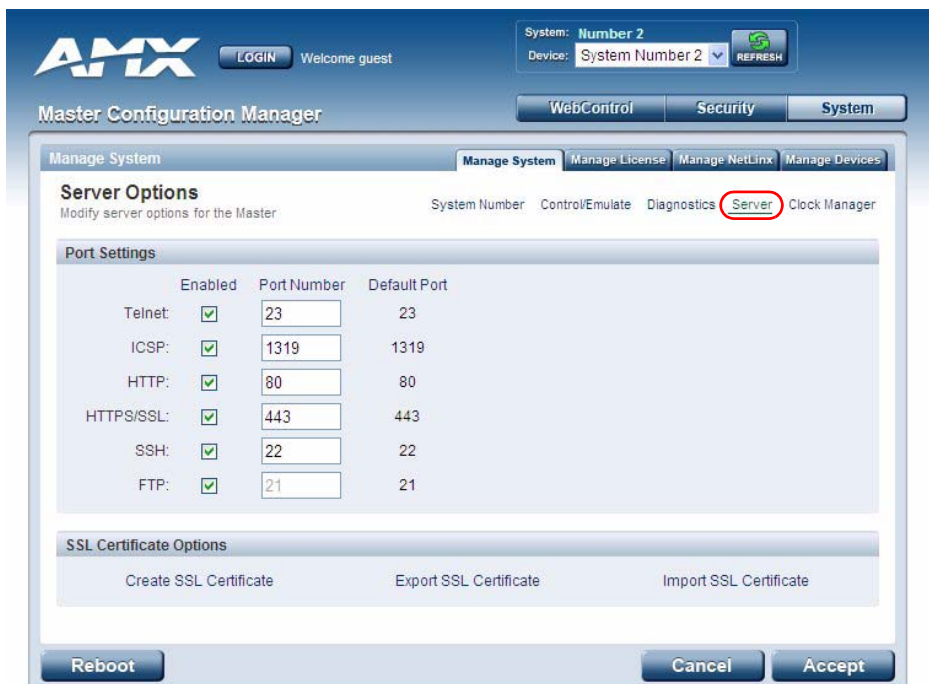

FIG. 55 Server Options page
Click the **Server** link (in the *Manage System* tab) to access the Server Options page (FIG. 55). The options on this page allow you to:
- **Second**, enable the *HTTPS/SSL* feature from the Server Options page (FIG. 55), to establish a secure connection to the Master prior to importing the encrypted CA certificate.